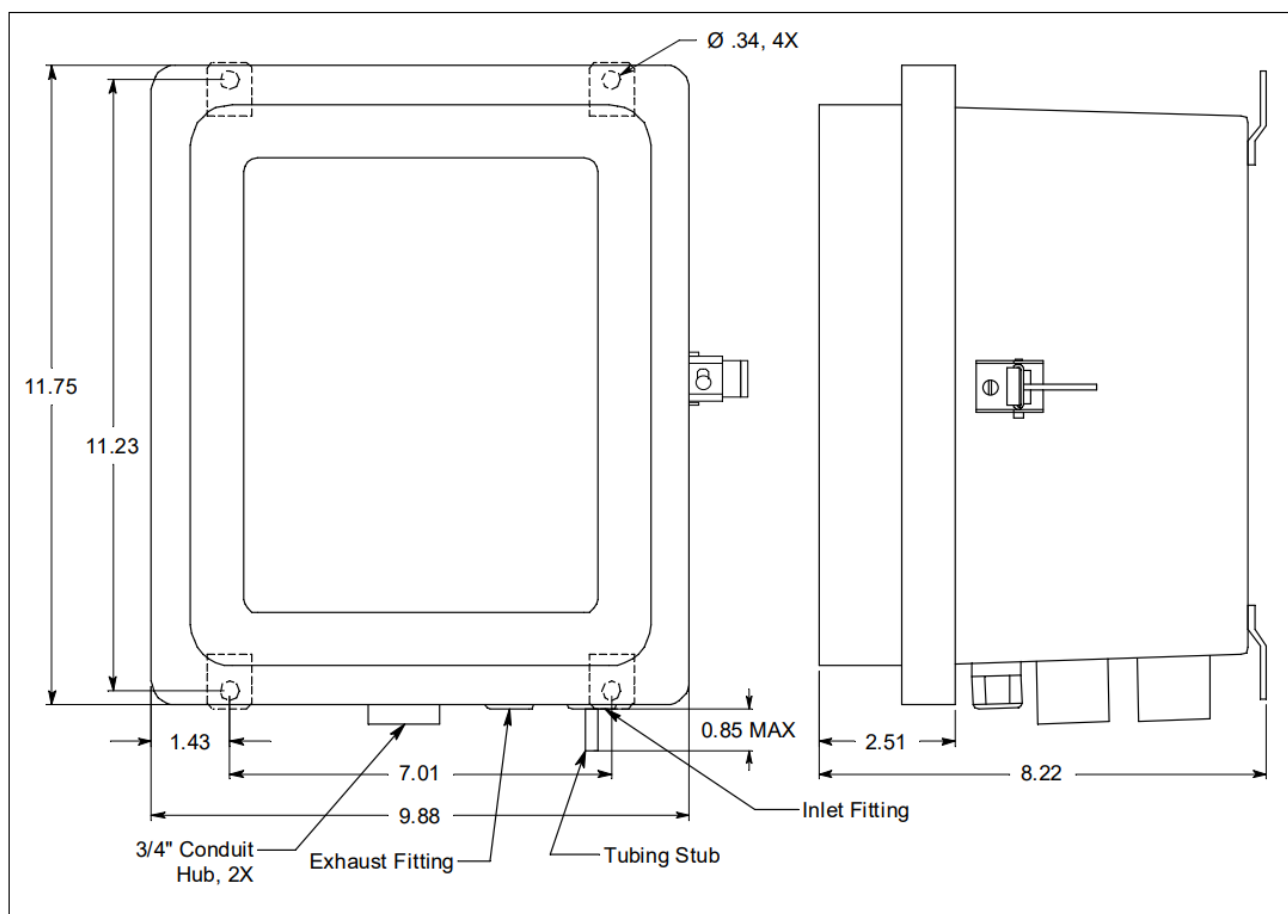

Figure 4: Outline & Mounting Dimensions
- Use four 1/4" screws through the mounting feet to mount the GD-70D4A-XX to a vertical surface. See Figure 4 for the mounting dimensions.